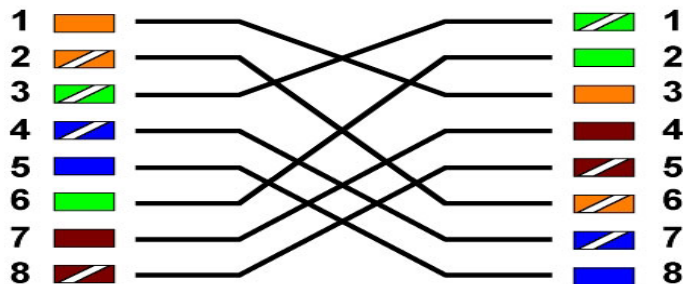

Figure 4 Network cables diagrams (Crossover and Straight)
- On most modern PC You can use **Straight network** cable for both connection types, for connection to hub of for direct connection to PC (see **Figure.4**)
- On some old PCs if you connect SDR to PC directly, you should use Crossover cable (see **Figure.4**)
- If you connect SDR to network router, hub or switch you should use Straight cable (see **Figure.4**).